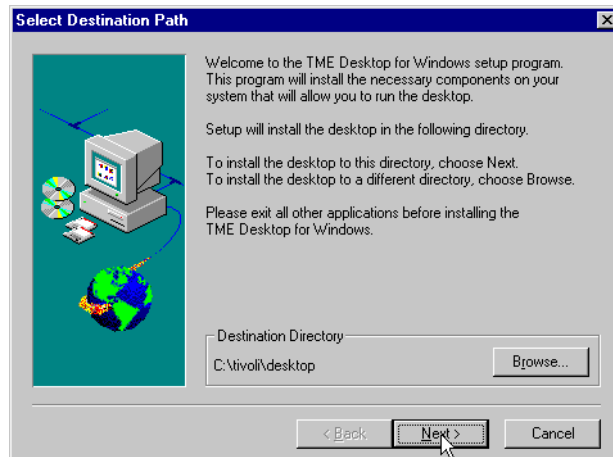

Figure 25. Select Destination Path
17. Choose the destination directory as shown in Figure 25.